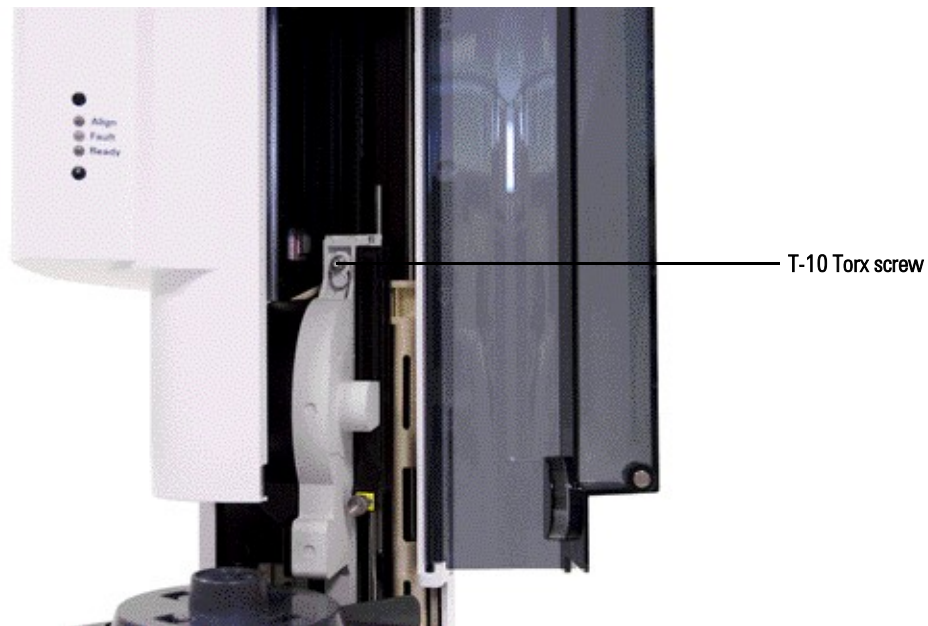

Figure 65 Remove the T-10 Torx screw at the top of the syringe carriage assembly
- 7 Completely loosen and remove the T-10 Torx screw at the top of the syringe carriage assembly (Figure 65).